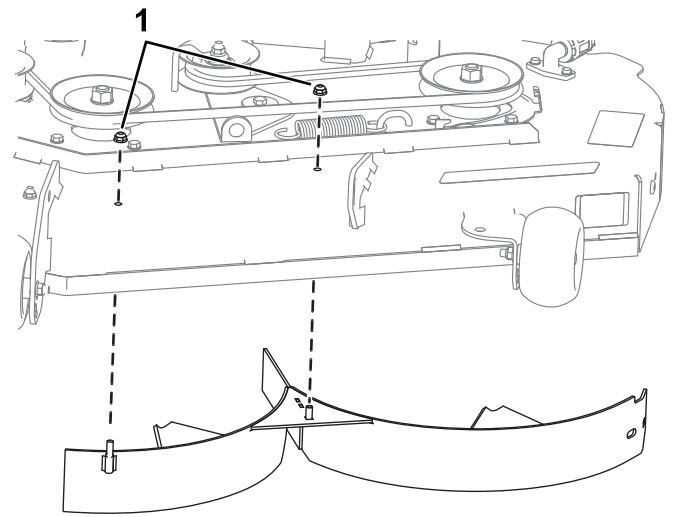
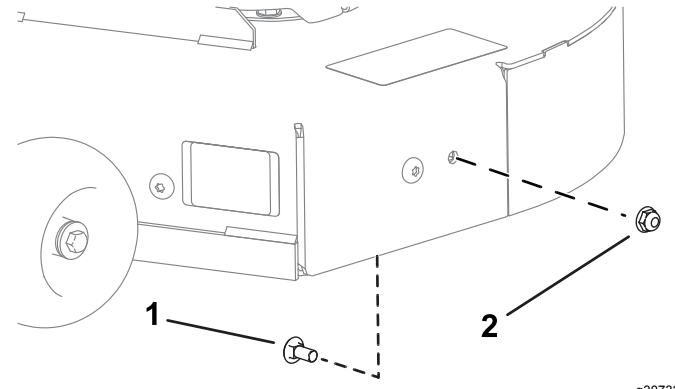

Figure 7
Figure 8
1. Install the left baffle using 1 bolt (5/16 x 3/4 inch) and 3 nuts (5/16 inch); refer to Figure 7 and Figure 8.